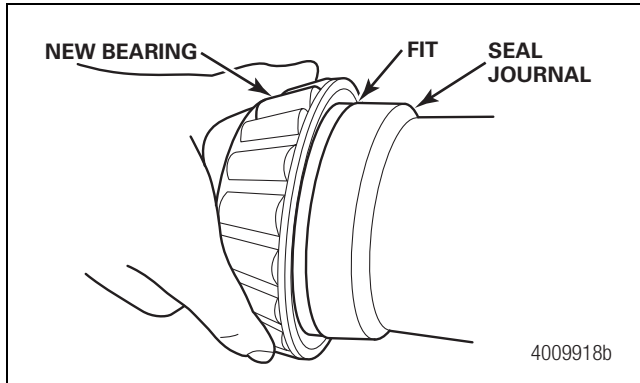

**Figure 17**
5. Use your finger to verify that the hub side of the axle backup collar is clear of debris. Use a clean rag and solvent to clean, as needed. Figure 17.